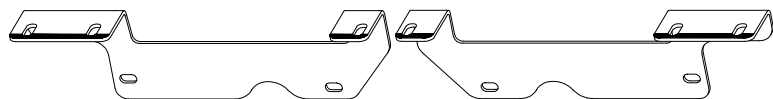

Figure A2
- **Side Plates:** Apply tape to the outside edge of each flange as shown in Figure A2.